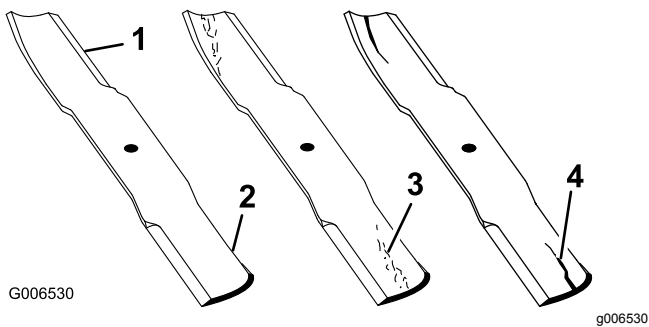

Figure 59
1. Inspect the cutting edges (Figure 59).
4. If you notice any cracks, wear, or a slot forming in this area, immediately install a new blade (Figure 59).